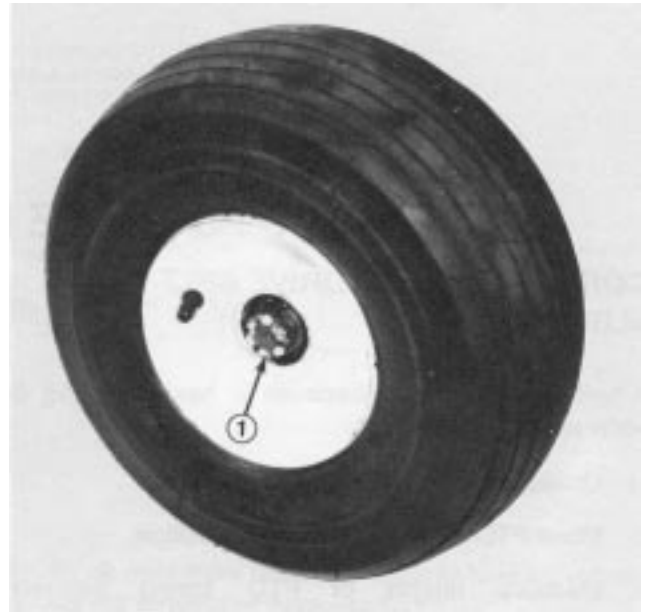

Figure 47
2. Remove dust cap from end of wheel spindle. Also remove cotter pin retaining slotted nut in place (Fig. 47).